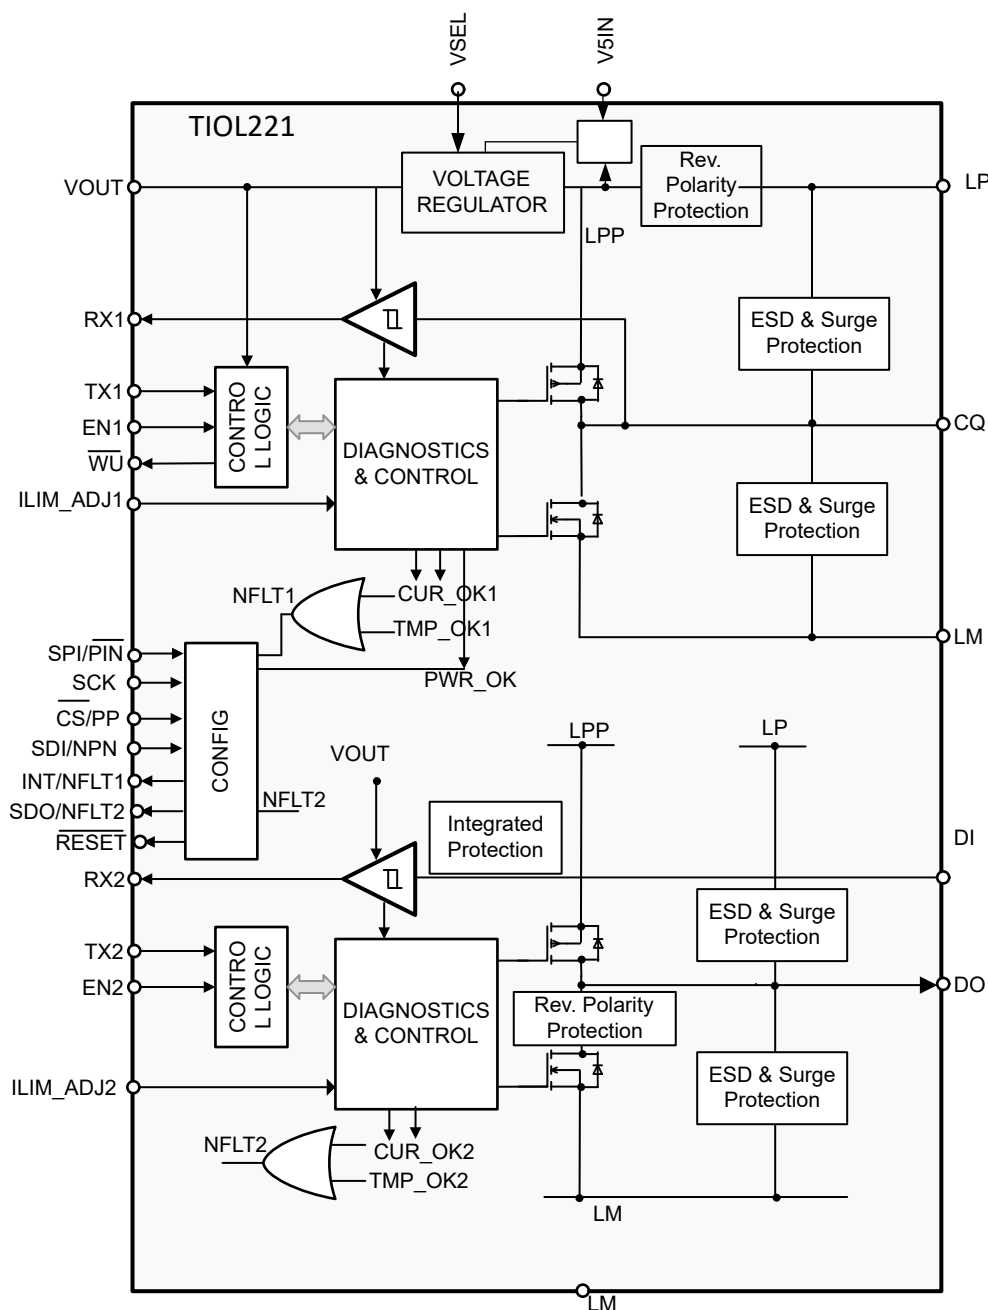

Figure 7-1. Block Diagram
Figure 7-1 shows the functional block diagram of TIOL221. The device has an IO-link compatible channel (CQ), a digital output driver (DO) and a digital input (DI) interface. The drivers at CQ and DO can be used in either push-pull, high-side driver (PNP), or low-side driver (NPN) configuration using the $\overline{\text{CS}}/\text{PP}$ and SDI/NPN pins in the pin-mode or via the serial peripheral interface (SPI). The internal receiver on the CQ line converts the 24V signal to standard logic levels on the receiver data output pin, RX1. Similarly, internal receiver on the DI line converts the 24V signal to standard logic levels on the receiver data output pin, RX2. A simple parallel interface is used to receive/transmit data and status information between the device and the local controller.